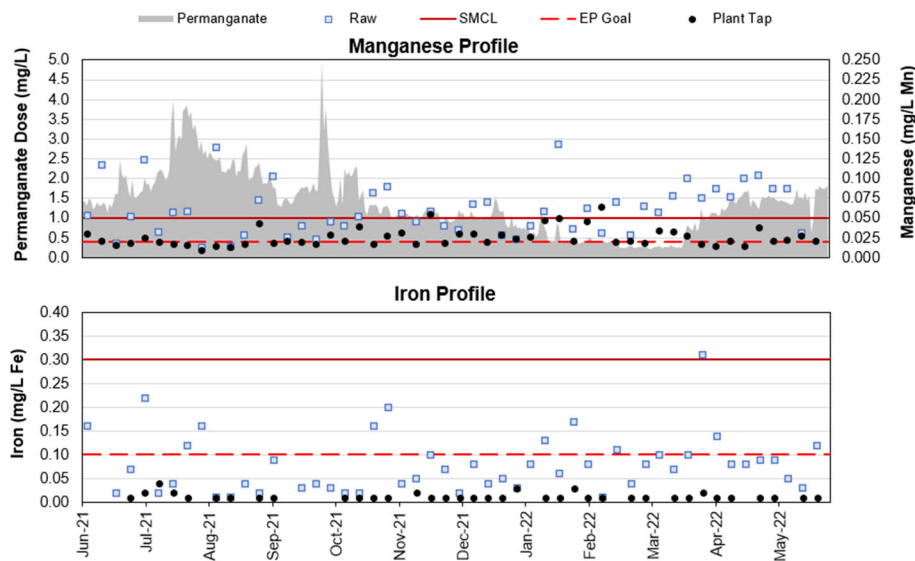

Figure 4: Example Inorganic Removal Performance Summary in OAS
- The example inorganics removal performance summary in Figure 4 shows that EP manganese levels exceeded the proposed EP goal (≤ 0.02 mg/L Mn) in 60% of measurements and the EPA secondary maximum contaminant level (SMCL ≤ 0.05 mg/L Mn) in 4% of measurements. However, iron levels at the EP met the SMCL (≤ 0.3 mg/L Fe) and the proposed EP goal (≤ 0.10 mg/L Fe) in 100% of measurements. This system monitored manganese and iron biweekly.